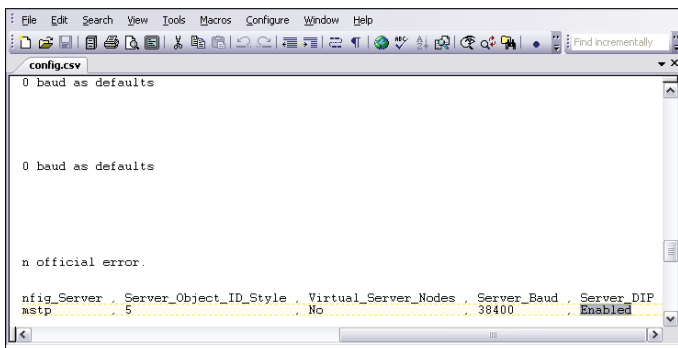

Figure 17: Changing the ‘Server_DIP’ parameter
11.) Inside the text file under ‘Connections’, you must change the ‘Server_DIP’ parameter from ‘Enabled’ to ‘Disabled’ and then you can use RUINET to configure the addresses and baud rate. (See **Figure 17**).